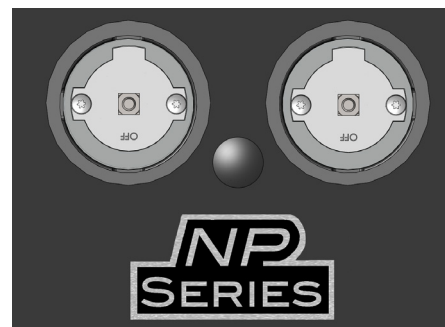

Figure 9: Valve positions for flushing with flush cart. OFF is in 6 o'clock position.
1. Rotate supply and return valves to bypass the tank. OFF should be in the 6-o'clock position on both valve #1 and #2 (Figure 9).
NOTE: Fluid should not enter the NP Series tank during flushing. If it does, immediately stop the flush cart pump and check to be sure the valves are in the correct orientation as shown in Figure 9.